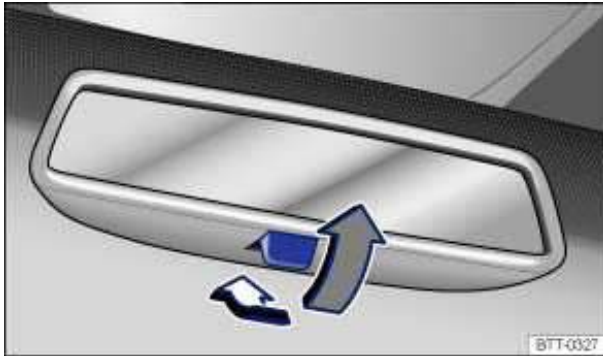

Fig. 84 Manually adjustable inside mirror.
- To adjust to non-glare visibility, move the lever so that it points backward ⇒ fig. 84.